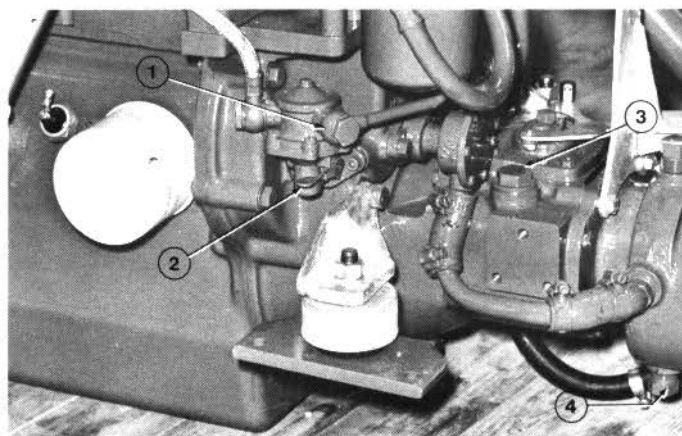

Fig. 4. Fuel feed pump
2. Open the cooling water draincocks on the engine block and exhaust — one draincock on each cylinder down on the starboard side and aft on the exhaust manifold. The cool jacket for the reduction gear is drained by the drain plug under the gear, see fig. 4.